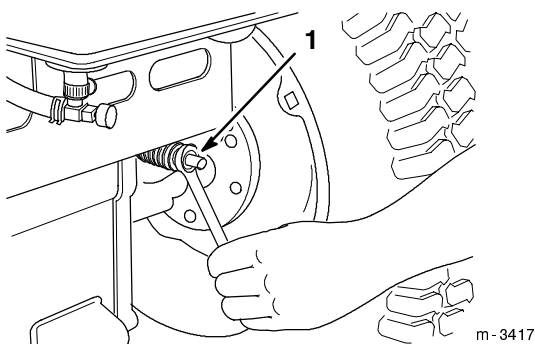

Figure 36
The brake adjustment is at the rear of the tractor (Fig. 36). If the parking brake does not hold securely, an adjustment is required.
4. Turn the brake adjustment nut (Fig. 36) until there is 2" (51 mm) of free travel.